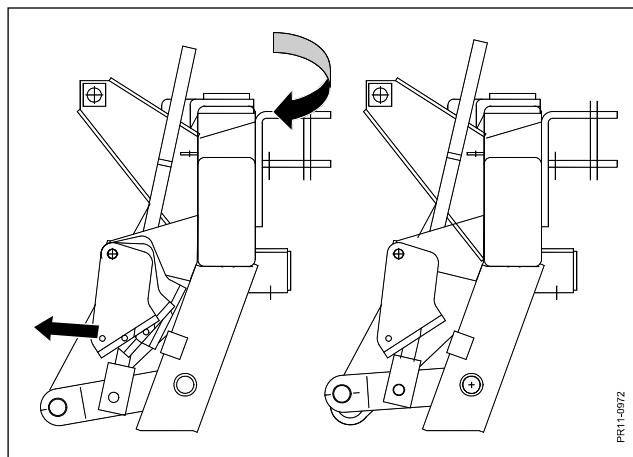

Fig. 3-2
- Fig. 3-2 Before the machine is swivelled from working position and backwards the parking lock is activated through the rope.
- Fig. 3-2